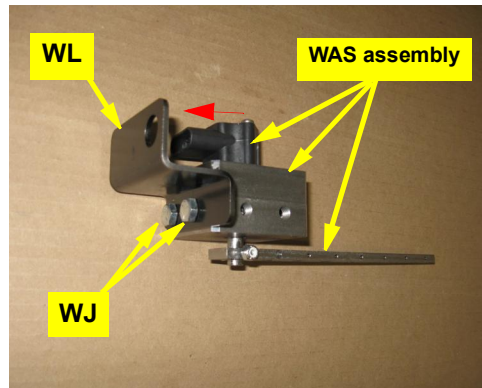

Figure 2b: WAS assembly on mounting bracket
- b. Using the provided hardware **WJ** bolt the WAS assembly onto its bracket **WL** (Figure 2b). Make sure the wire connector is facing the bracket.